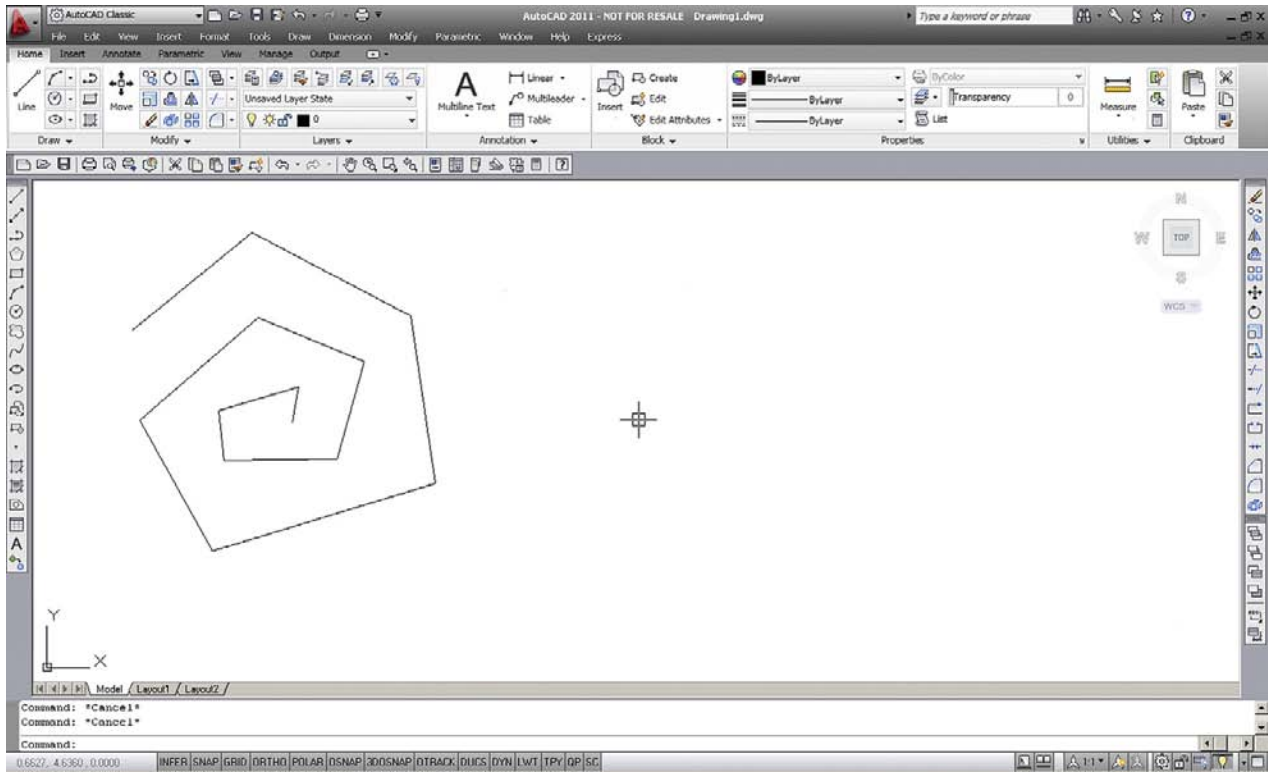

FIGURE 1.14
- Step 3.** Move the mouse elsewhere on the screen and left-click again. You can repeat Step 2 as many times as you wish. When you are done, click Enter or Esc. You should have a bunch of lines on your screen, either separate or connected together, as shown in Figure 1.14.